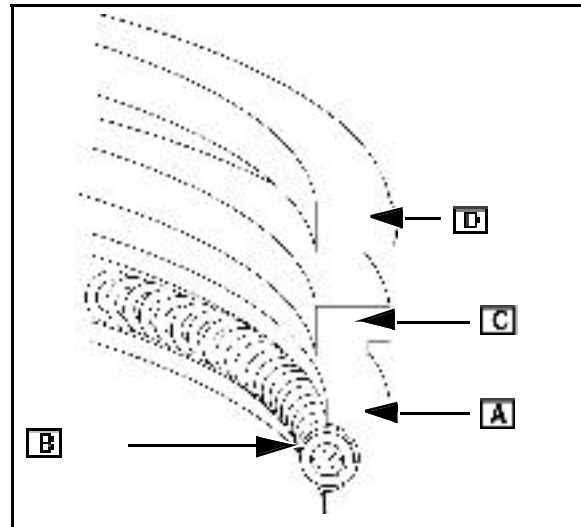

Fig. 16
**NOTE:** Install gap of oil ring expander (B) 180 degrees from gap in oil control ring ([A] Fig. 16).
1. Install the oil control ring (A) and expander (B).
2. Install the center ring (C).
3. Install the top ring ([D] Fig. 16).